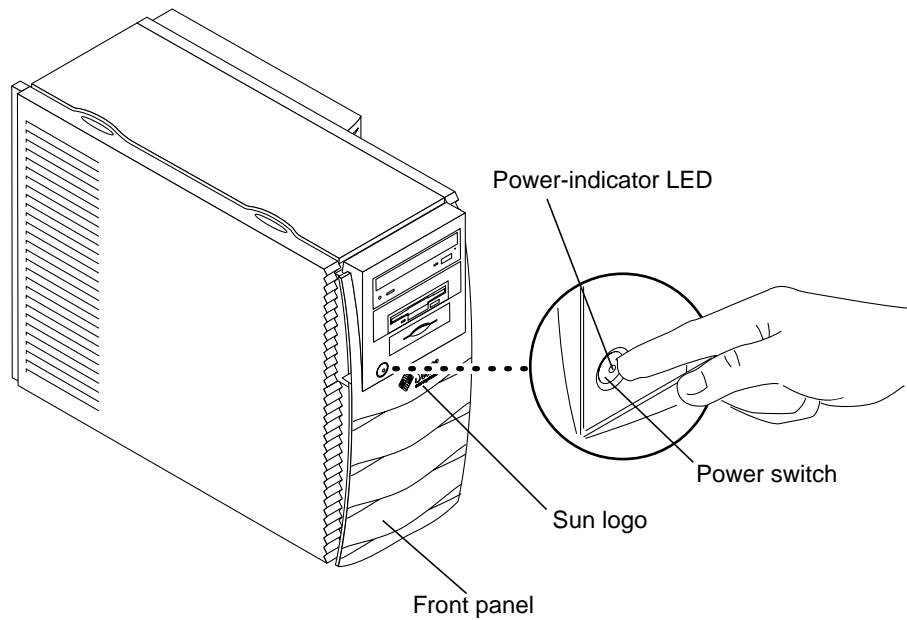

FIGURE 9-3 Workstation Power Switch
2. **Press the power switch on the front panel and release it (FIGURE 9-3).**